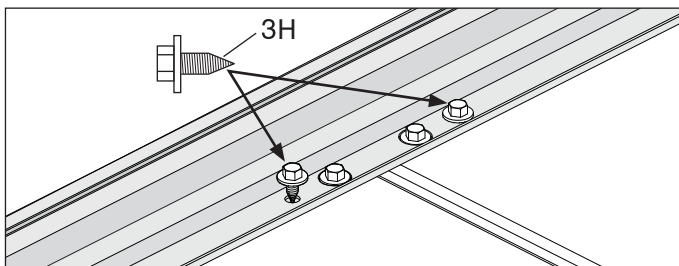

Figure 2-23.
- b. (Dual installation only) Install outer screws on common mounting bracket, align top trim and attach with 3/8" socket. (See Figure 2-23).